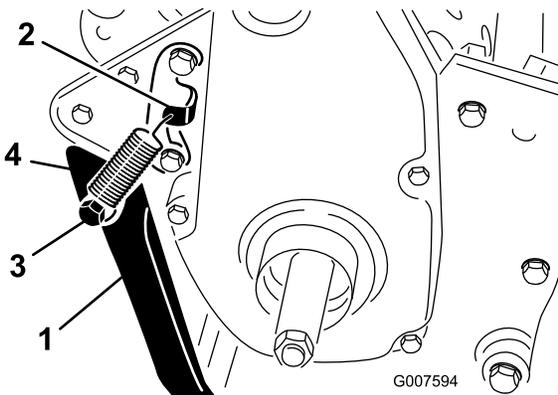

**Figure 7**
1. **On Model 04056 only**, connect the spring stud to the right-hand side of the kickstand (Figure 7) with the bolt, washer, and flange nut provided.